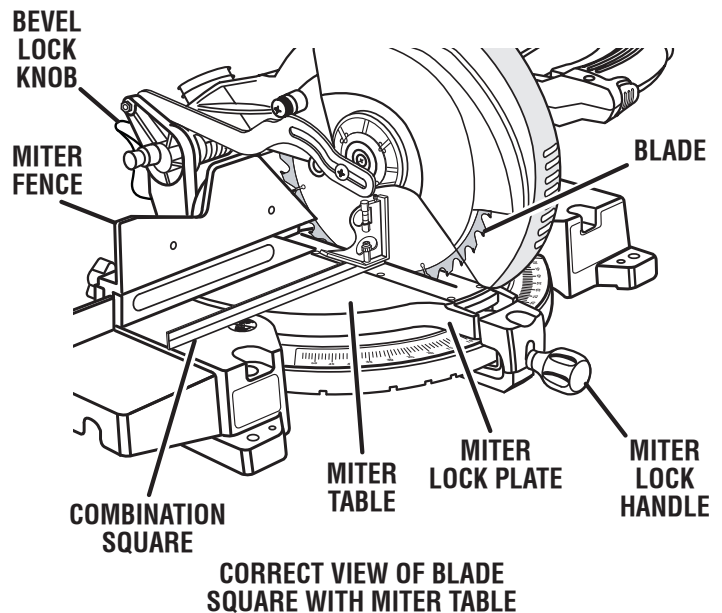

Fig. 22
See Figures 22 - 25.
- The edge of the square and the saw blade should be parallel as shown in figure 22.
- If the top or bottom of the saw blade angles away from the square as shown in figures 22 and 24, adjustments are needed.